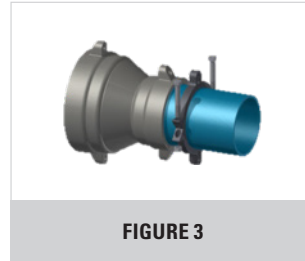

FIGURE 3
- Assemble restrainer per Figure 3, leaving sufficient threads on the end of the T-head bolt to fully engage nut.